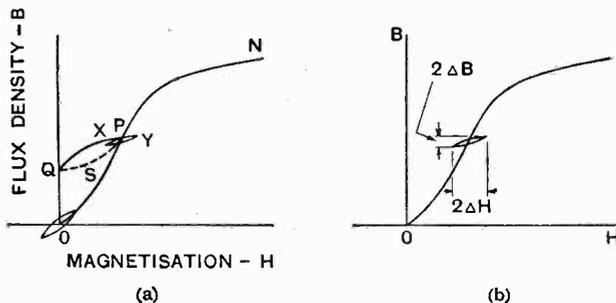

Fig. 9.—Curves showing the effect of D.C. feed on the permeability of the choke core.
Suppose we examine the influence of these three quantities separately. The inductance *per se* is a quantity which depends upon the number of turns, the diameter and length of the coil, and upon the iron core. The latter should have an air gap if large direct currents pass through the winding, to avoid magnetic saturation. The iron should consist of laminations, since we are dealing with alternating currents of audio-frequency. The permeability of the iron, by virtue of which the inductance of the coil is augmented manifold, depends upon three things: (1) the D.C. feed current, (2) the value of the ripple current, (3) the frequency of the ripple current. In fact, the state of the iron is identical with that in an intervalve transformer, where the A.C. magnetisation is superposed upon the D.C. magnetisation. The influence of the D.C. feed on the permeability is illustrated in Fig. 9, which is reproduced from a former issue.¹ Provided one keeps away from the saturation point a differential permeability of about 280 may be expected at 500 cycles.²